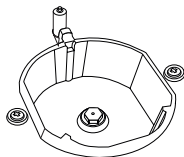
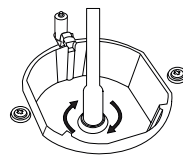

Figure 4
Figure 5
2. Please remove nozzle (fig 4) from burner with special nozzle driver and install new nozzle. (fig 5)